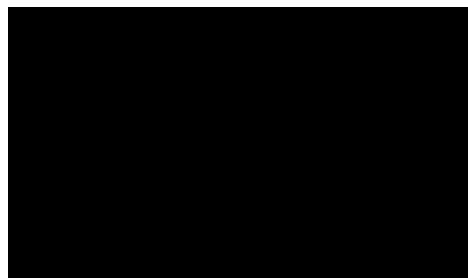

Figure 35 Practice Alphanumeric Commands, Box, and Line in High Resolution
8. Use another Justification (J) and Horizontal Tab (T) sequence to place a horizontal line under “IGP.” Position the line 2.025 inches (*jus*) down, which is 1.5. inches under the name. Tab the line to 1.525 inches (*dis*) from the left margin which begins the line just inside the left edge of the box. Use a Solid Line (LS) command to create a line 2.925 inches long horizontally (*horz*) and 0.005 inches wide vertically (*vert*). Add this data to the file before the sequence terminator. The printed result is shown in Figure 35.